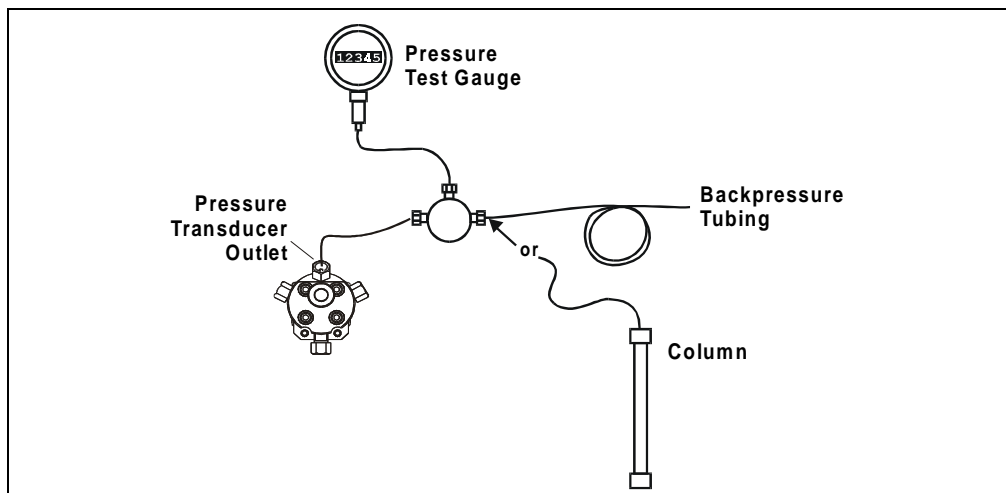

Figure C-27. Pressure Gauge Installation
7. Install a pressure test gauge between the pressure transducer outlet and either a length of backpressure tubing, or a column (see Figure C-27). A pressure gauge assembly (P/N 046175), including a gauge with an accuracy rating of $\pm 0.25\%$, required fittings, and backpressure tubing, is available for this purpose. Contact Dionex for details.